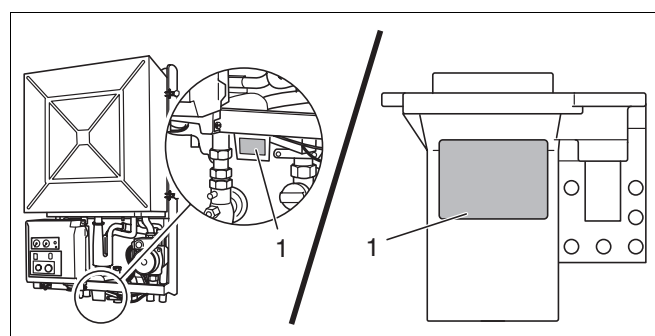

Fig. 94 Place new stickers
- Cover stickers (fig. 94, item 1) with the new stickers (2 pieces, included in conversion kit).